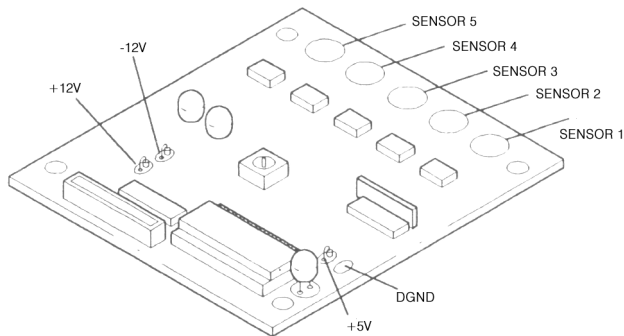

Figure 5-8. Read A/D Board Voltage Test Points
1. Locate +5VDC test point and ground test point on Read A/D Bd. (See Figure 5-8.)
1. Locate +12VDC test point and ground test point on Read A/D Bd. (See Figure 5-8.)